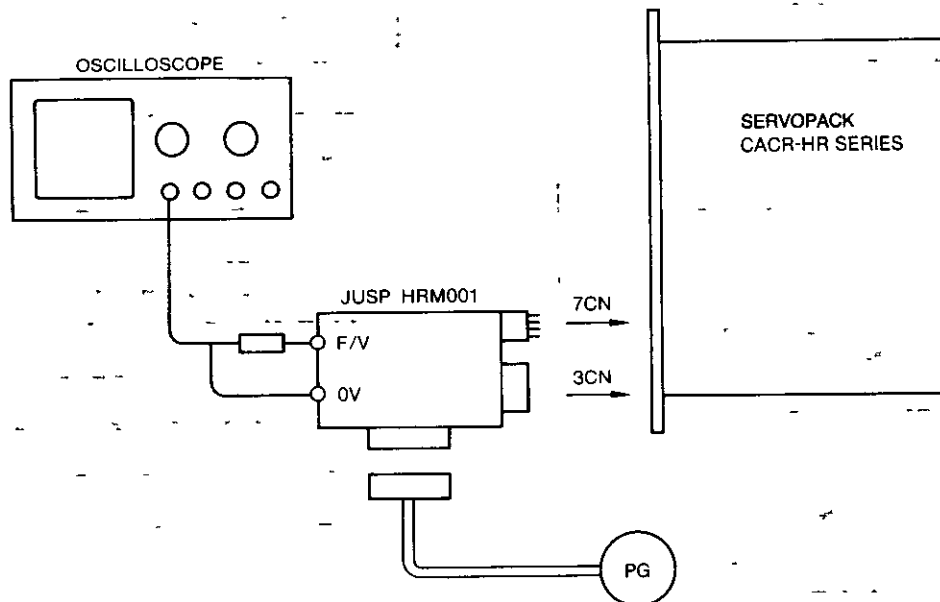

Fig. 9.11
- 2 Connect the monitor to the SERVOPACK as shown in Fig. 9.11.